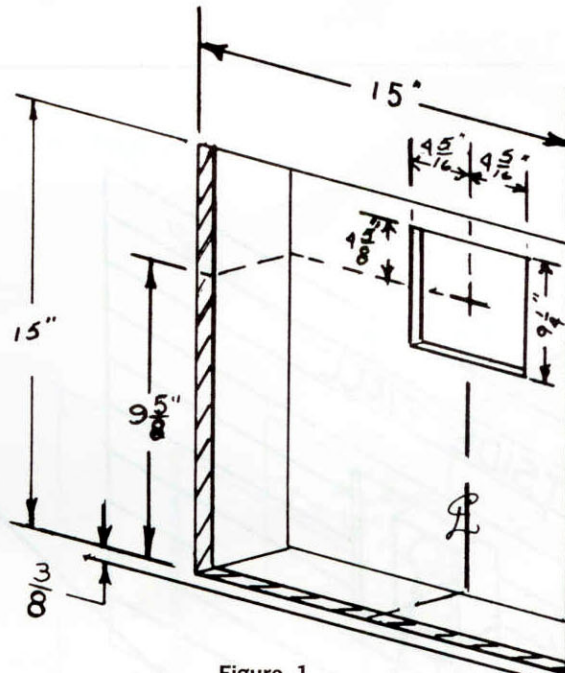

Figure 1
- Cut the opening through the inside cabinet as shown in Fig. 1.